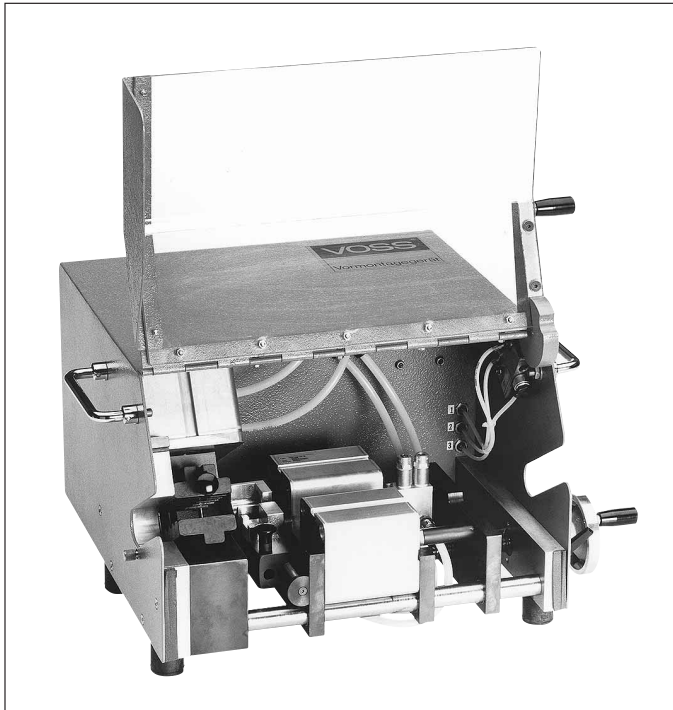

Fig. 7: VOSS type 56 assembly machine
- VOSS type 56 assembly machine (Fig. 7) for inserting fir-trees into nylon tubing